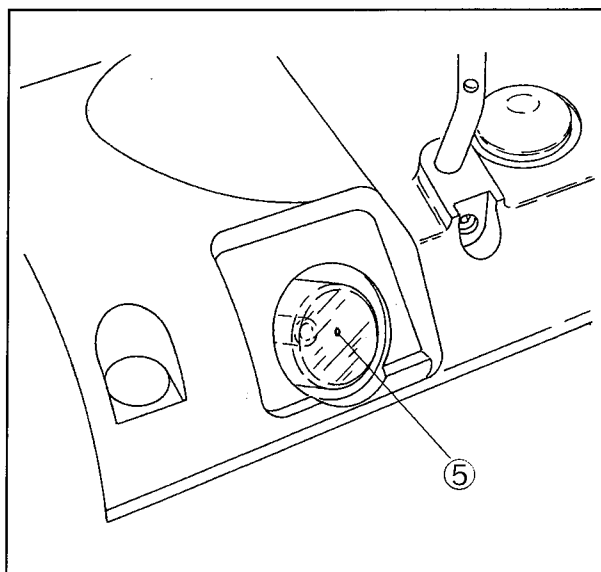

Fig.11
- ◇ attach the accessory oil filter ② to the mouth ③ of the oil pump.
- ◇ Check that the accessory plunger ④ is already installed into the oil reservoir ①.
- ◇ Rotate the machine and check that oil is splashed onto the oil sight window ⑤ as shown in Fig.11.